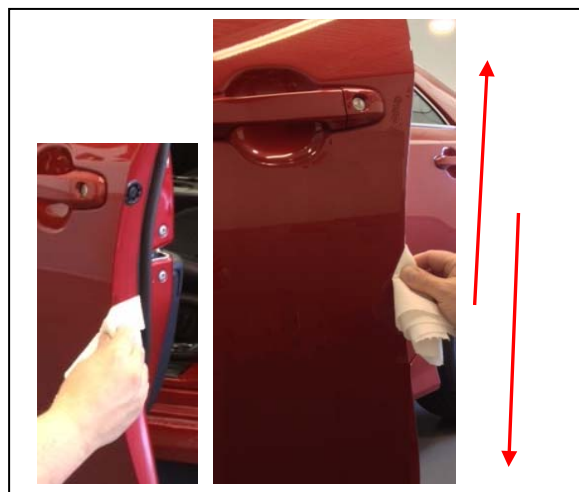

Fig. 1-2
(2) Using the second lint free cloth, thoroughly dry the area free of Simple Green cleaner previously applied. In some instances a rubber weather seal may be found – ensure to clean between the trailing edge and rubber seal. (Fig. 1-2) Turn the cloth repeatedly to attain a dry surface.